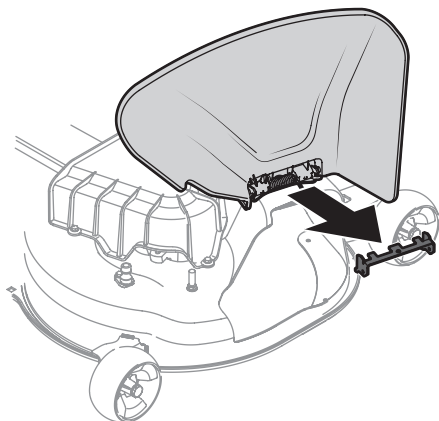

Figure 9
2. Holding the chute deflector fully upward, remove the stop bracket. Lower the chute deflector and discard the stop bracket (Figure 9).